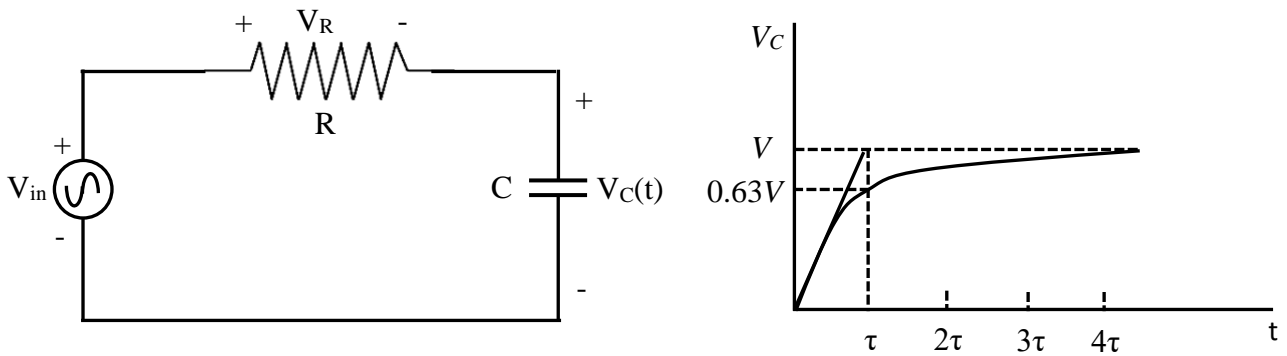

Figure 9.1: RC Circuit
Where, V is the applied source voltage to the circuit for $t \geq 0$. $\tau = RC$ is the time constant. The response curve, showing capacitor charging for Series RC circuit to a step input with time axis normalized by τ is shown in Figure 9.1.
1. Set up the circuit shown in Figure 9.1 with the component values $R=2.2\text{ k}\Omega$ and $C=0.1\text{ }\mu\text{F}$.
a). $t_p \gg 5\tau$: Set the frequency of the function generator output such that the capacitor has enough time to fully charge and discharge during each cycle of the square wave. So, let $t_p = 15\tau$ and accordingly set the function generator frequency using equation (2). The value you have found should be approximately 150 Hz. Determine the time constant from the waveforms obtained on the CRO. (At $t = \tau$, $V_c(t) = 0.63V$ from equation (3)).